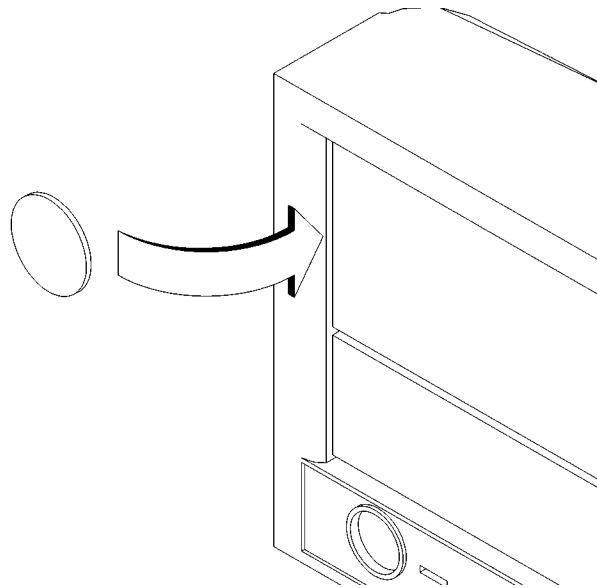

Figure 32
- 1 Remove the disk filler panel from the bottom location of the bezel by using a coin or other flat, blunt object to pry it from the front, as shown in Figure 32.